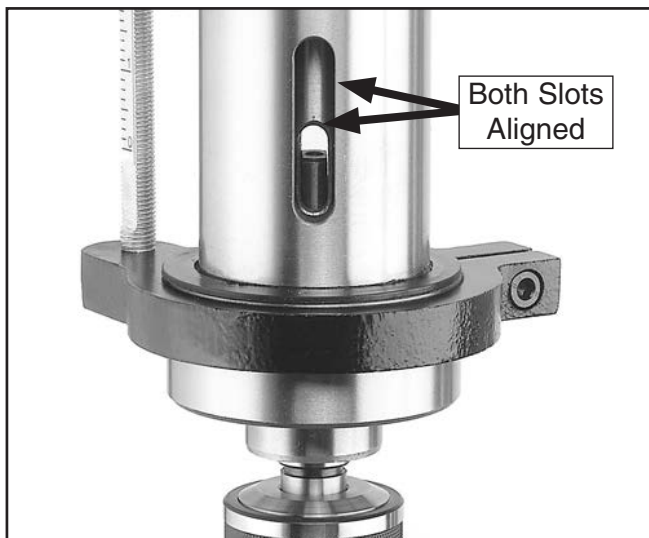

Figure 31. Inner and outer drift-key slots aligned.
5. Rotate the spindle until the inner drift-key slot is aligned with the outer slot, as shown in **Figure 31**. You will see through the spindle when the slot is properly aligned.